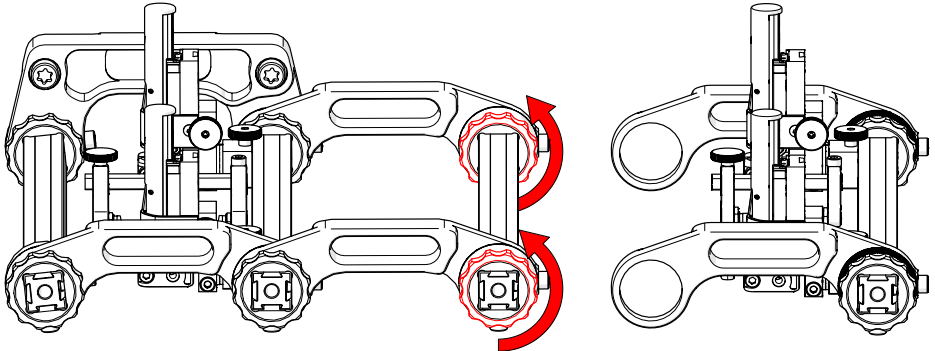

Fig. 141 - Unscrew the probe holder frame nuts
2. Unscrew the two probe holder frame nuts (Fig. 141).